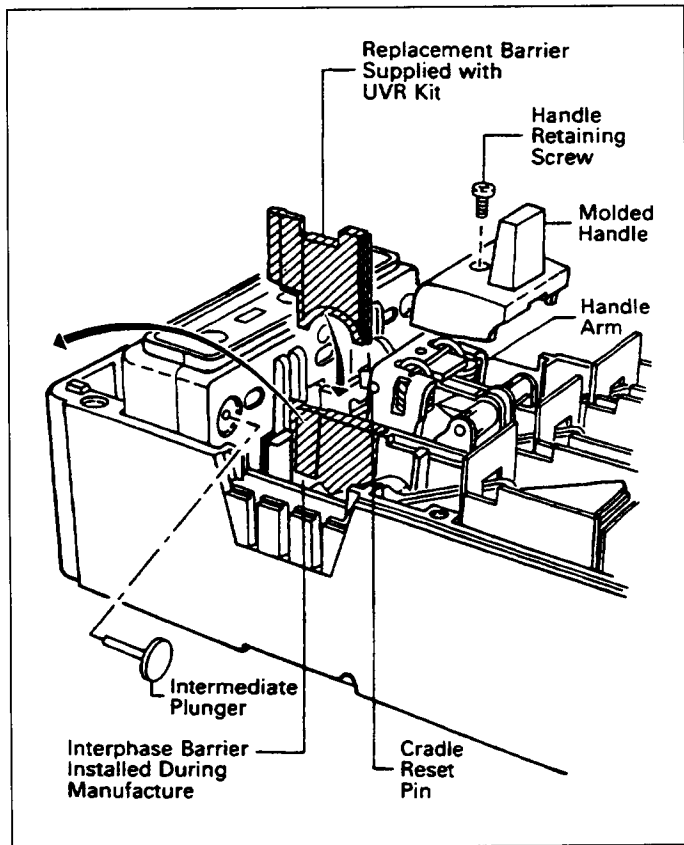

Fig. 2-3. Interphase Barrier Replacement and Intermediate Plunger Positioning
- 2-6. Remove handle-retaining screw and molded handle from handle arm. (see Fig. 2-3.).
- 2-7. Remove interphase barrier between accessory mounting cavity and operating mechanism. (See Fig. 2-3.)
- 2-8. Install replacement interphase barrier supplied with kit in base. (See Fig. 2-3.)
- a. Position intermediate plunger in trip unit. (See Fig. 2-3.)
- 2-10. Put molded handle on handle arm, and install retaining screw. (See Fig 2-3.)